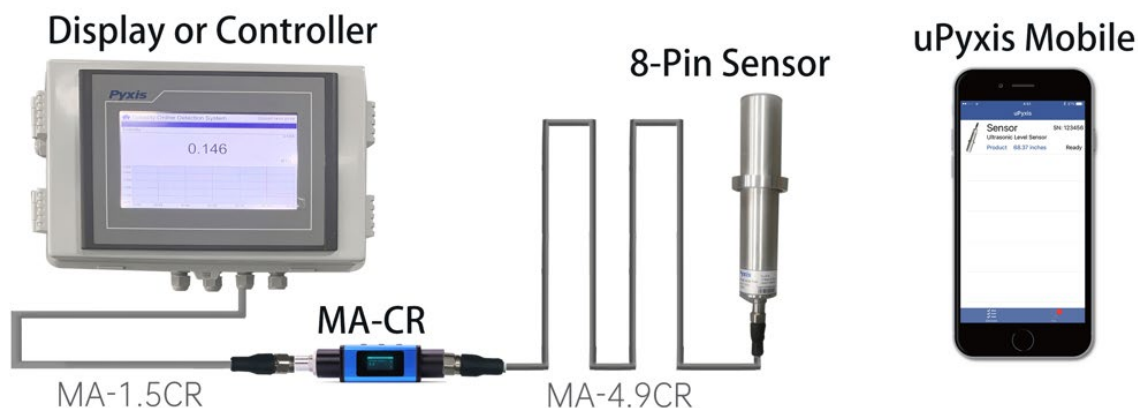

Figure 7. 8-Pin Pyxis Sensor with MA-CR and uPyxis Mobile APP
1. Install the MA-CR Bluetooth Adapter on the 8Pin output cable from the ST-500W as outlined on page 8 as seen in **Figure 7** (if powered by a controller).